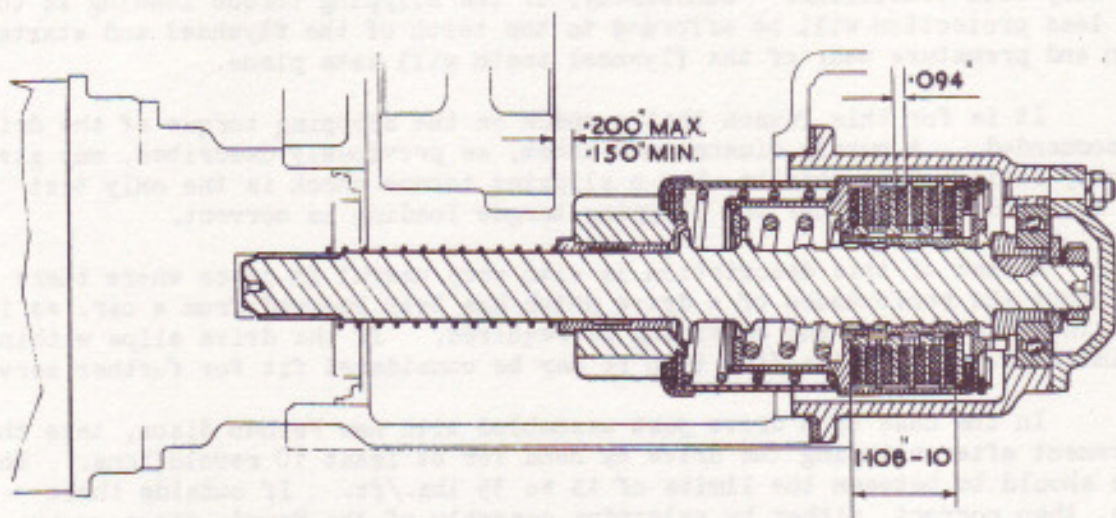

FIG. 19. SECTION THROUGH DRIVE IN DISENGAGED POSITION.
Having thus assembled the discs, hold them closely together with the fingers, remove the operating nut (38) and with the aid of a 1 to 2 inch micrometer, measure the overall thickness of the discs, this should be 1.108" - .010" as shown in Fig.19. The .094" dimension shown in Fig.19 is the nominal thickness of each Ferodo disc.